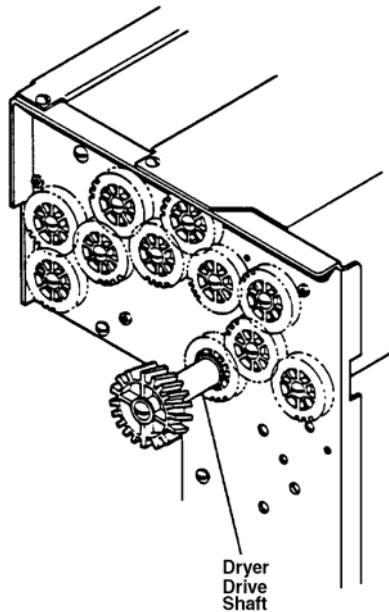

Figure 1-8. Dryer rack.
- (b) Also apply a coat of AFP-8827 grease to the dryer drive shaft under the support bearings (see figure 1-8).